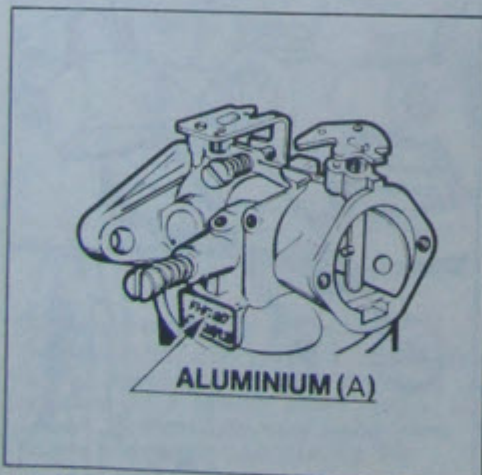
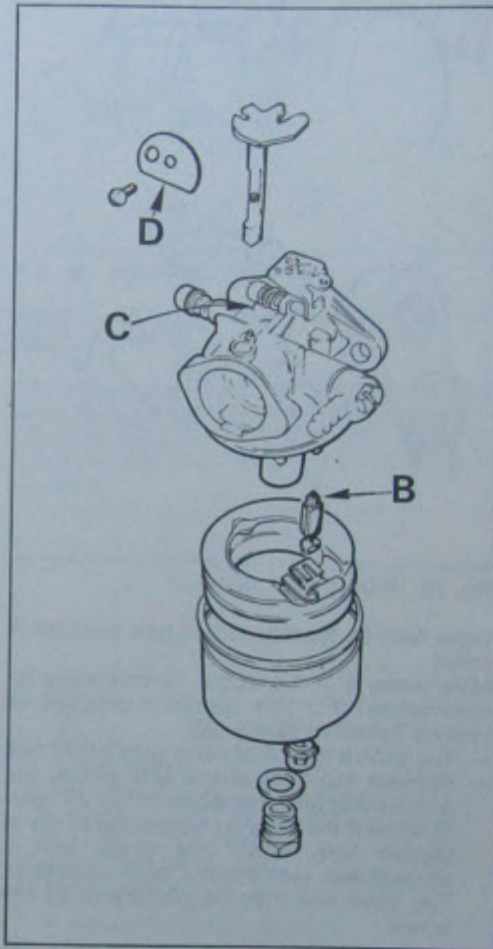

Fig. 33 Carburettor in Aluminium
Fig. 34 Aluminium carburettor exploded view
- Float type carburettor in Aluminium (Fig. 33).
or Fig.33) which in case of Zamac alloy is located by the side of the idle air screw and in case of Aluminium beneath the idle air screw. All parts are interchangeable with the exception of the jet, the inlet valve (B in Fig. 34) and the choke shaft with choke and screw (D in Fig. 34).